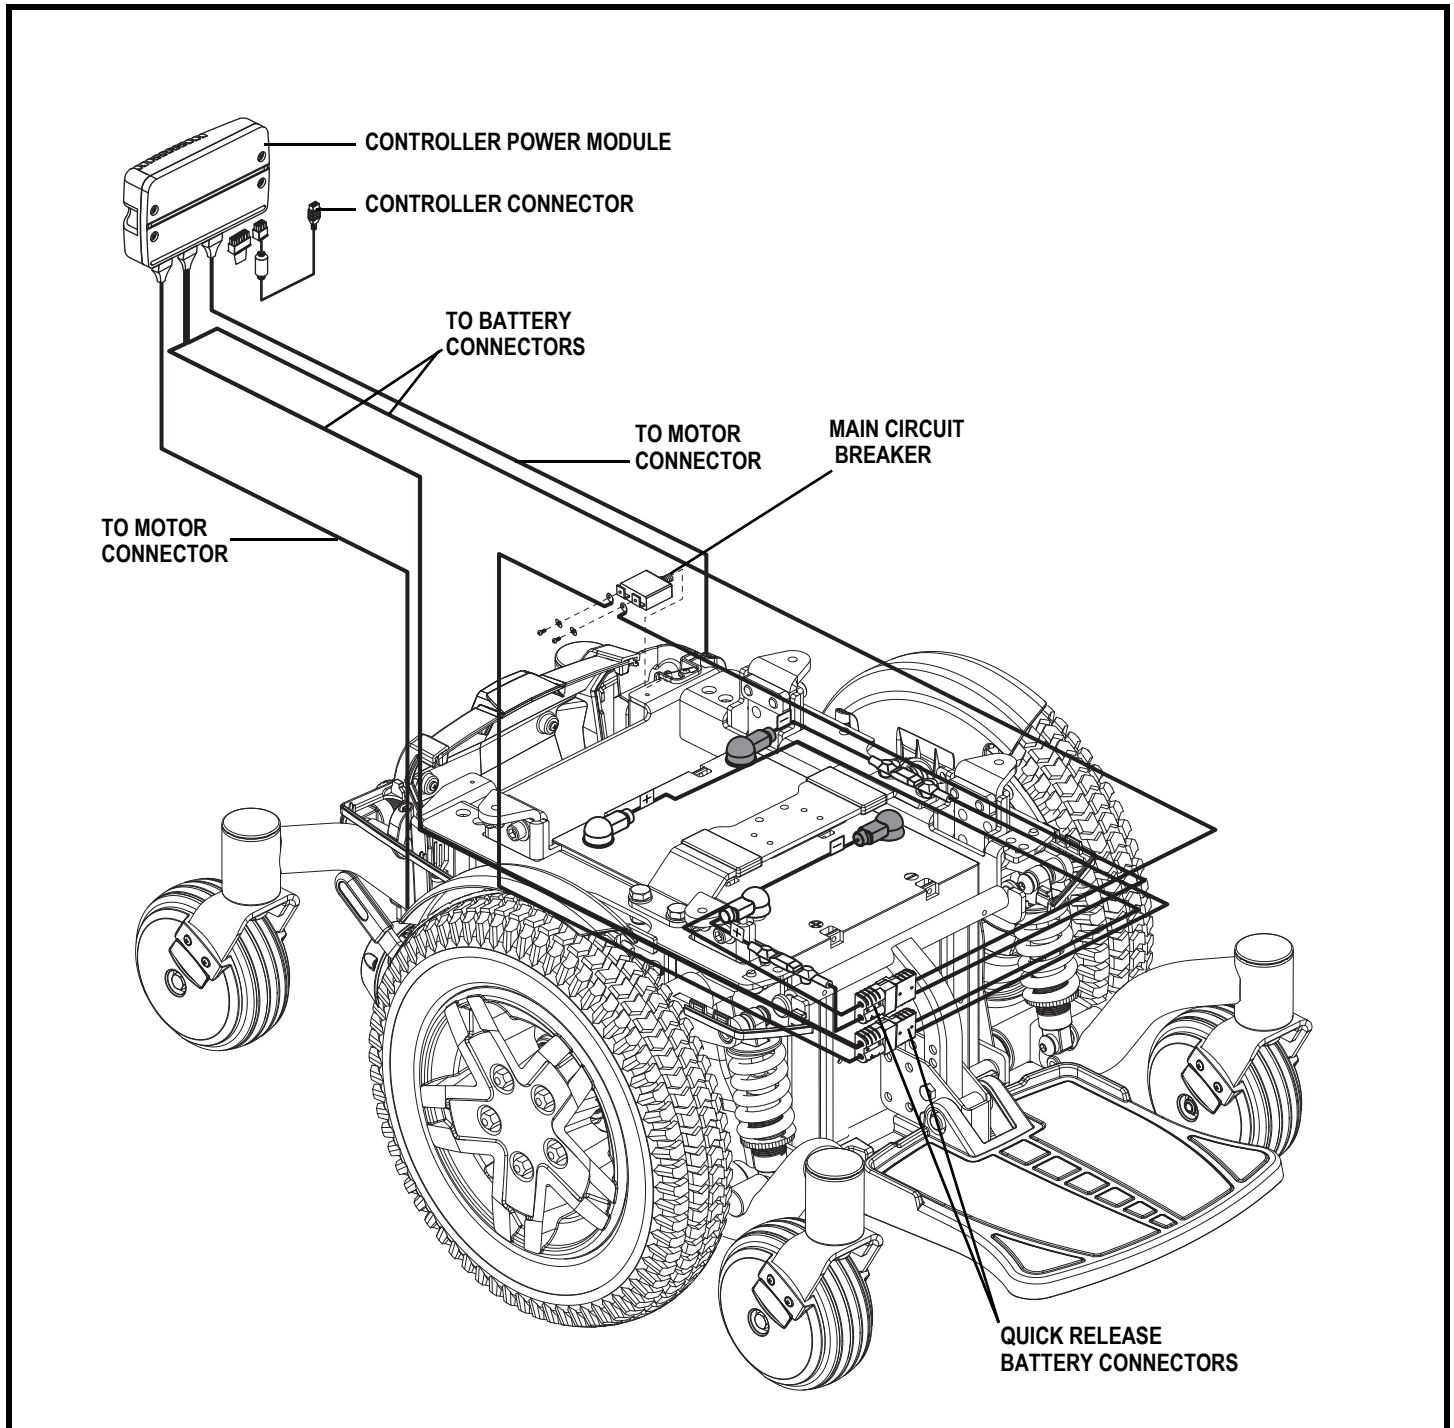

Figure 3. Jazzy 600 ES Electrical Components
The electrical components consist of the controller assembly, the batteries, and the motors. The batteries, motors, and controller power module (if equipped) are located on the power base assembly. The controller is located on the seat assembly. Connectivity between the controller and the motors, batteries, and the battery charger is provided by one or more wiring harnesses. **See figure 3.**
5. Plug the controller connector into the rear of the power base. See figure 3.
3. Unplug the controller connector(s) from the power base. See figure 3.